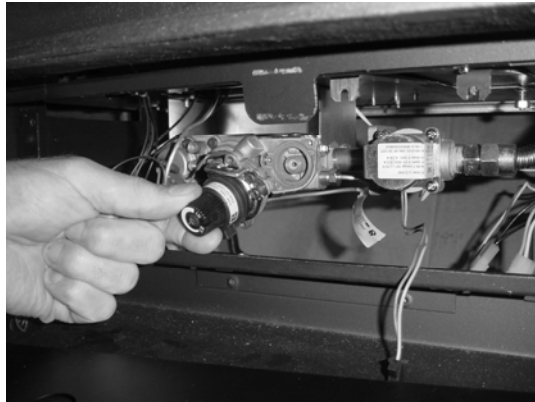

Figure 14
- 9 Use the included torx wrench to remove the stock regulator (see Figure 14). The old regulator may be discarded.